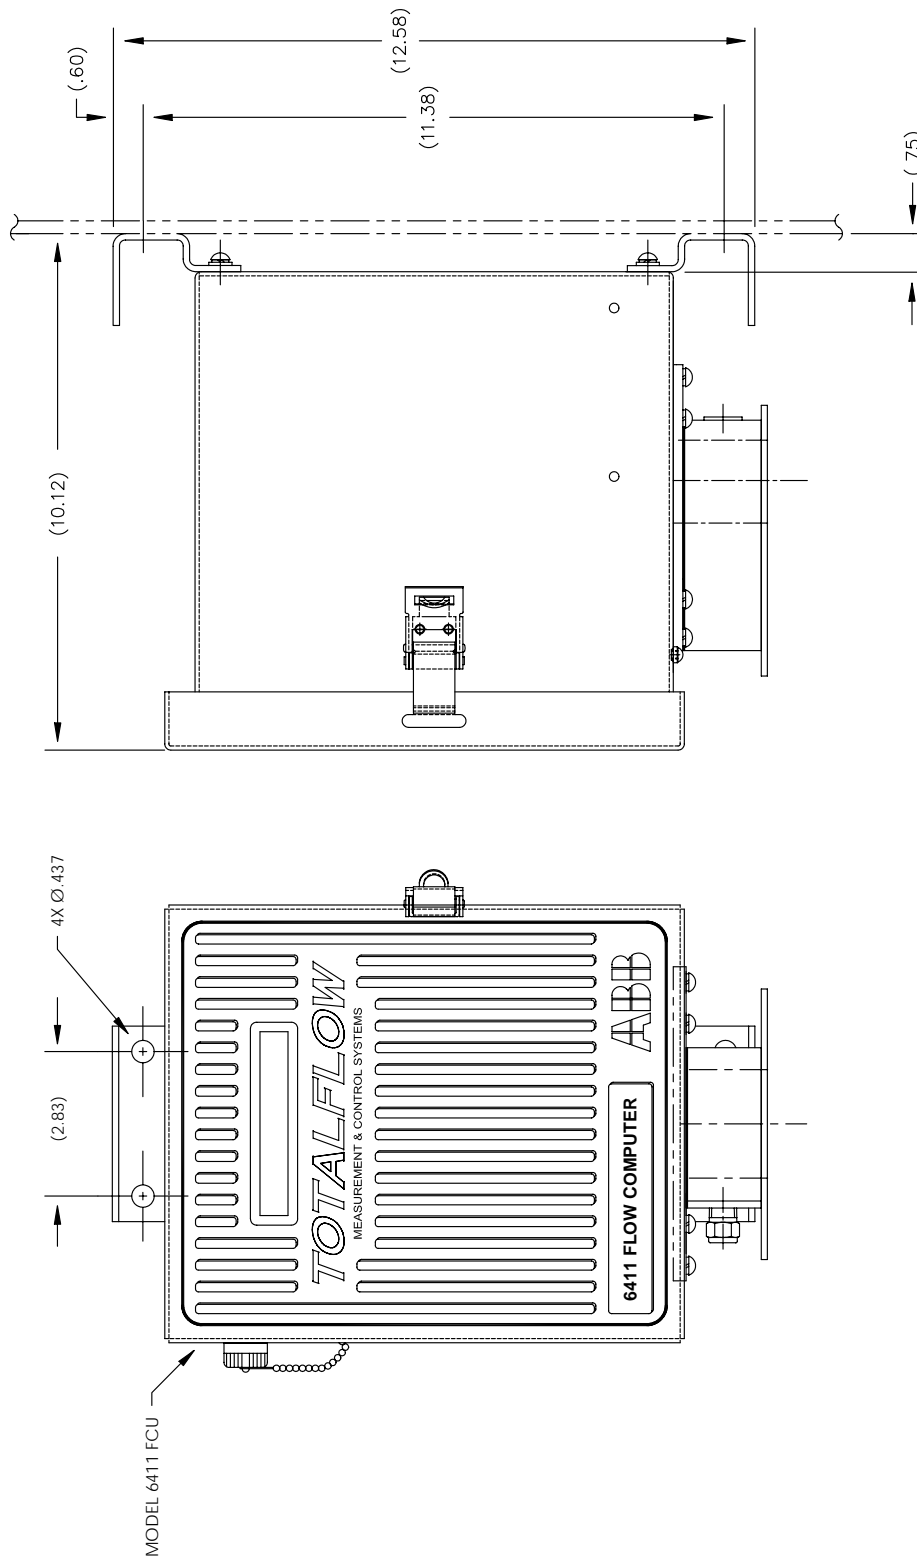

Figure 2-4. Model 6411, Wall Mount
1.	Referring to Figures 2-4 through 2-6 FCU wall mount Drawings, drill mounting holes in wall supports.